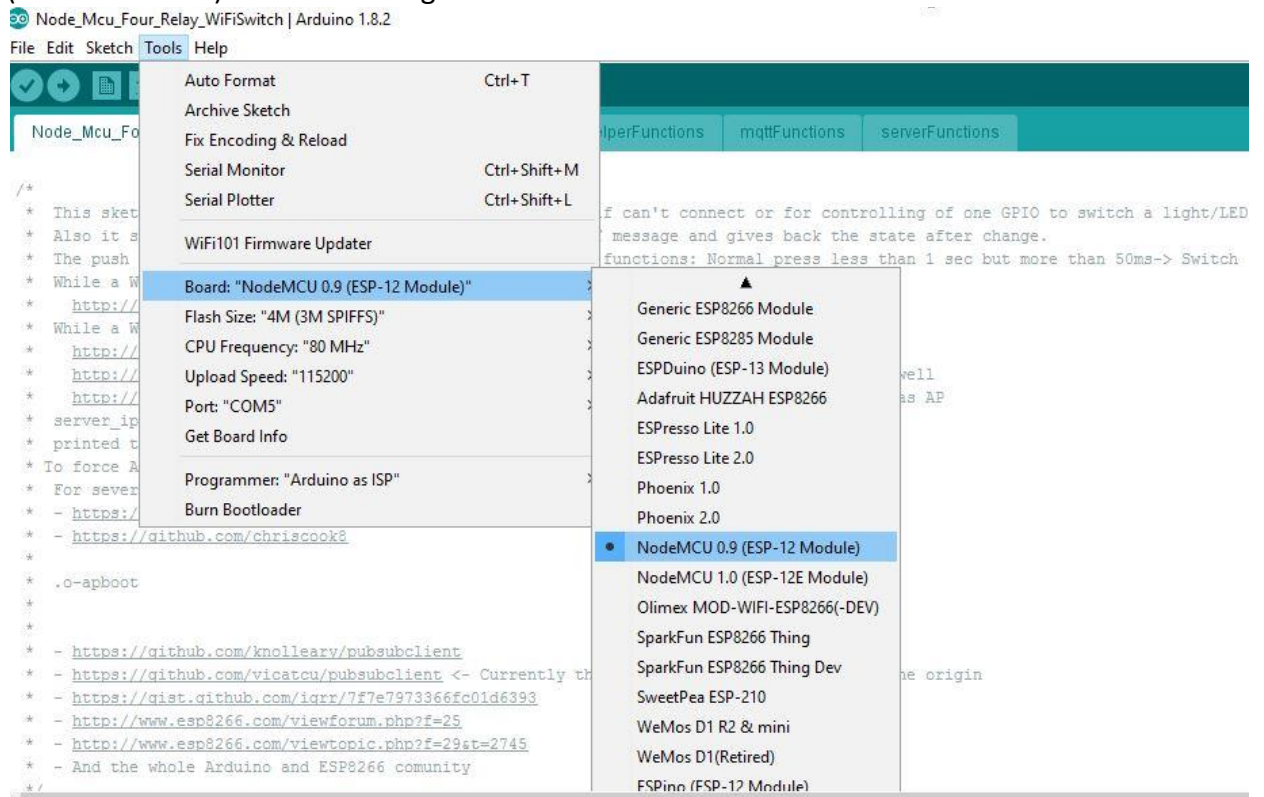

Figure 12: Board Selection
6. Click on Tools Tab, move mouse pointer on “Board: xxxxxxxxxx” and click on “NodeMCU0.9 (ESP-12 Module)” as shown in figure 12.